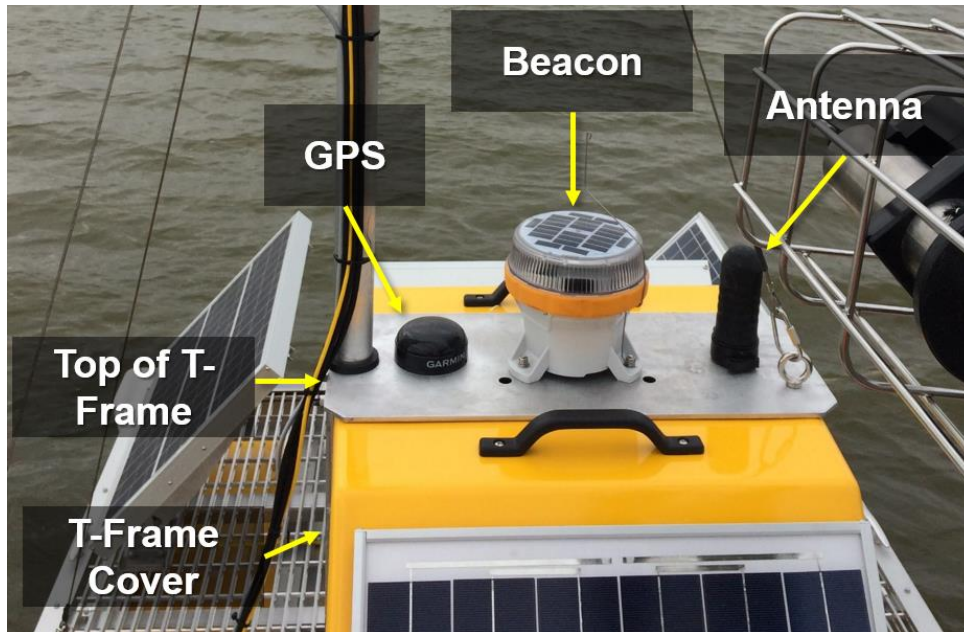

Figure 9. T-Frame: GPS, Beacon and Antenna
- b. Ensure the GPS, Beacon, and Antenna securely mount to the T-frame (see Figure 9).